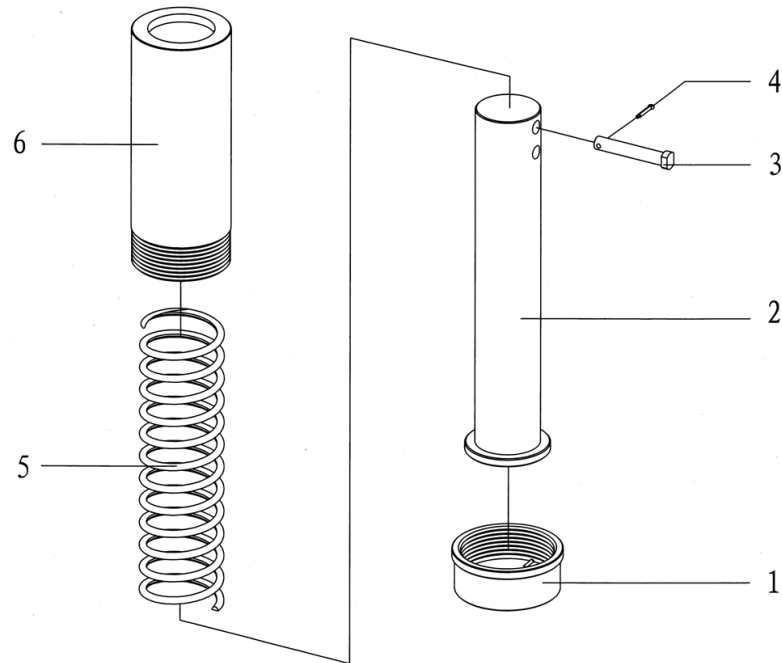

Fig.18
9.14 Rear guide pole assembly(Fig18,Table 14)